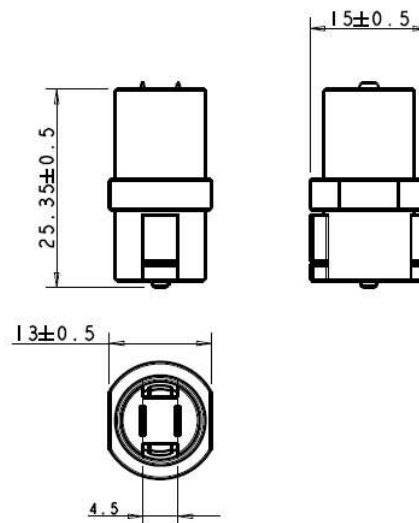

Fig. 4
- Fast-on terminals 2,8x0,5mm (model ST11 F, see Fig. 4);